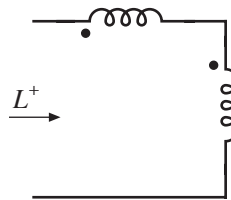

Figure 6 Series connection of the two windings, for Question 11
11. The two windings are connected in series as illustrated in Fig. 6